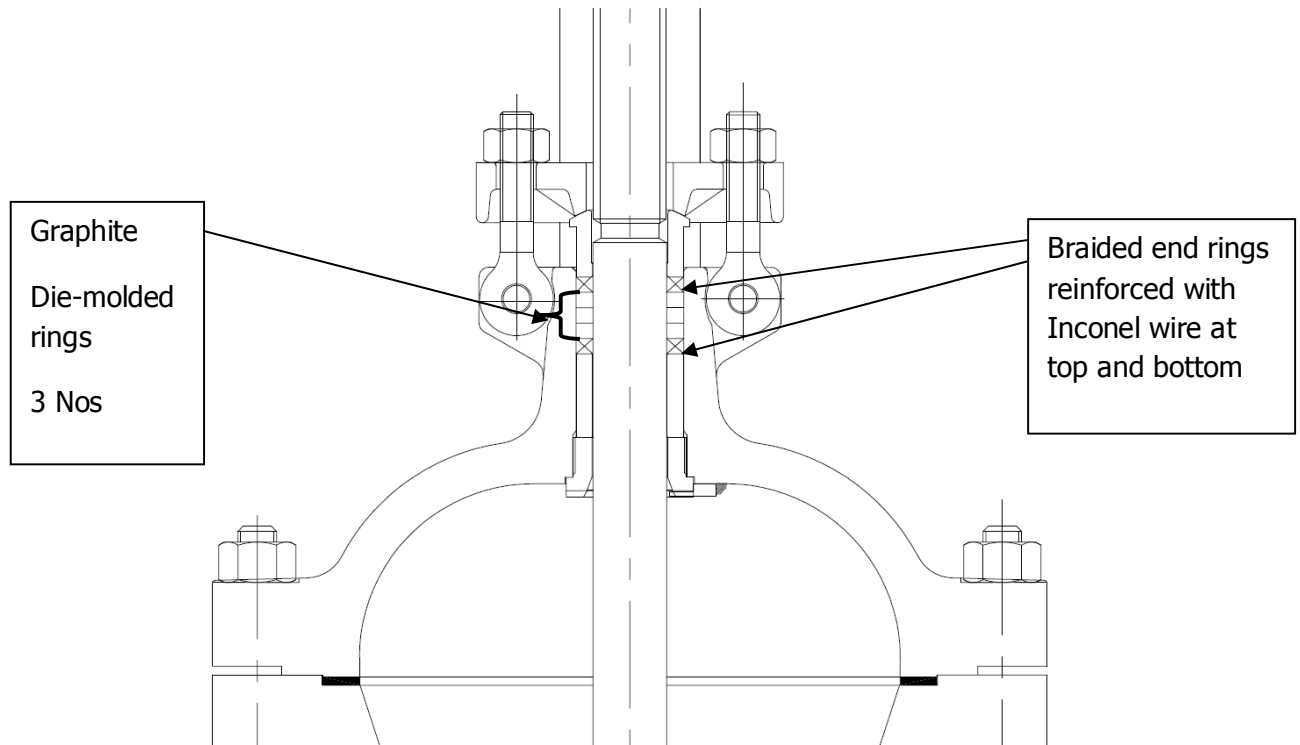

Fig.1
Packing arrangement consists of Braided end rings reinforced with Inconel wire at top and bottom and three die-molded rings as shown in Fig.1. This arrangement is followed for valve assembly and spare supply.
3. Assemble one braided ring followed by three (OR) four die-molded ring and end ring as shown in Fig.1 depending upon the space availability in the stuffing box.